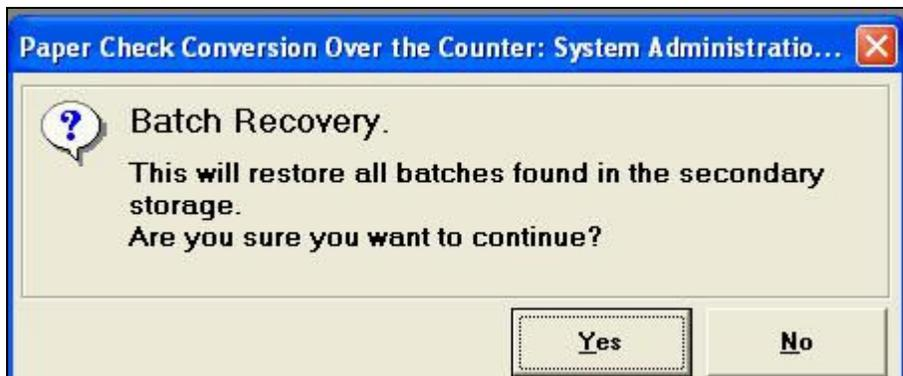

Figure 3.33
14. Logon to the SAT. Select the Batch Recovery Icon  Recovery, or from the menu at the top of the screen, select **'File'**, then **'Batch Recovery...'**. The following message appears: (Figure 3.33)